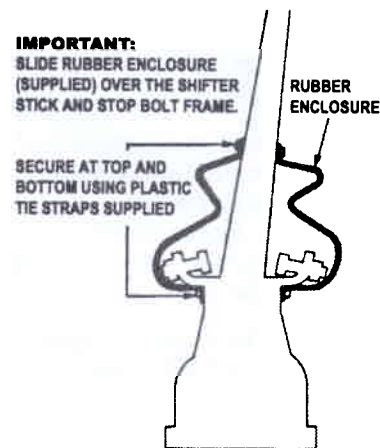

FIG. 4
14. Remove knob from shifter stick. Slide rubber enclosure (supplied) over the shifter stick and stop bolt frame. Secure at top and bottom using plastic tie straps supplied. (Refer to Fig. 4) **IMPORTANT: This rubber enclosure must be installed to prevent dirt and moisture from entering shifter base housing which can cause premature wear of shifter.**